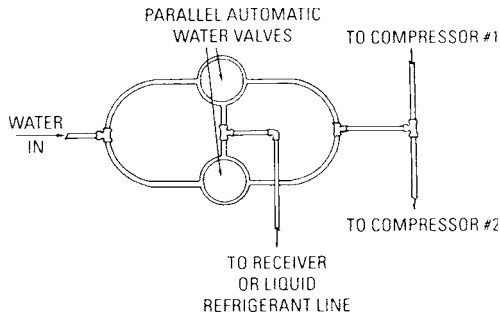

Fig. 18-9 A method of interconnecting water valves.
- Single automatic water valves or multiple valves in parallel (Fig. 18-9) should be installed in the common water line.